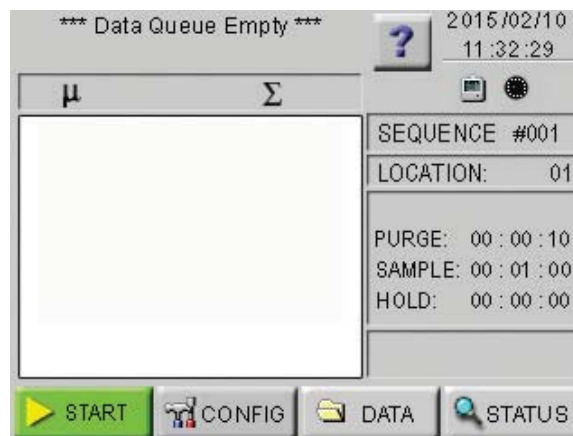

Figure 5-4 Manifold Controller MAIN Screen
4. The Manifold Controller MAIN screen should appear as shown in Figure 5-4. If service indicators appear in the upper-right hand corner (see "Operating the UM-II Controller", page 6-3 for Status Symbols), check the connections. If there are no service indicators, proceed with the next step.